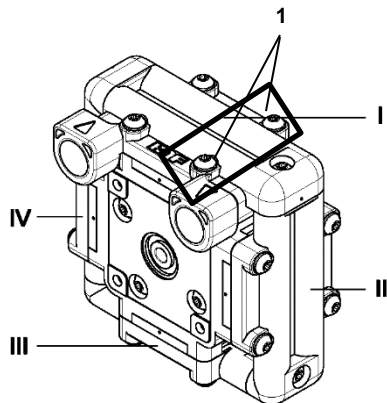

Fig. 17
**i CAUTION:** When mounting head connection II, the two marked head screws (1) of pump head I (see Fig.17) must be loosened by 2 revolutions to prevent any damage to the sealing lips.
22. Tighten the two loosened head screws (1) of head I with torque 2.5 Nm\*\*.
23. Mount the connecting screws (2) with torque 1.2 Nm \*\*.